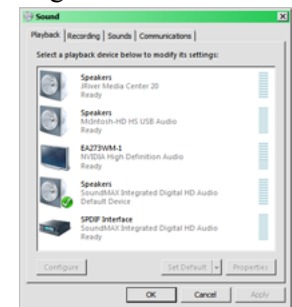

Figure 10
1. From the Windows START button, click on “CONTROL PANEL” followed by selecting “SOUND”. Refer to figure 10.